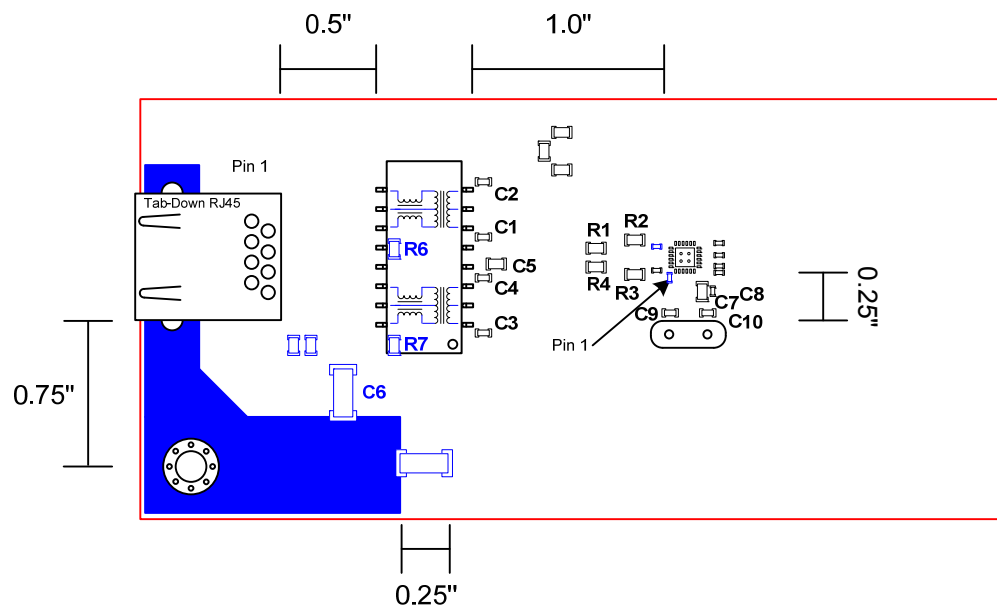

Figure No. 2
3. See Figure No. 2 below for minimum distance requirements related to the RJ45 connector, the magnetics and the LAN8720I Phy.
2. See Figure No. 2 for distance requirements related to the LAN8720I Phy. The crystal and associated components should be located within 0.25" of the LAN8720I.